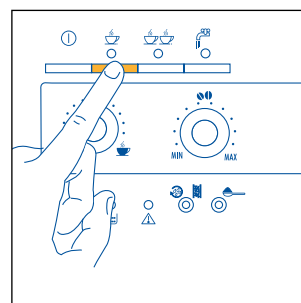
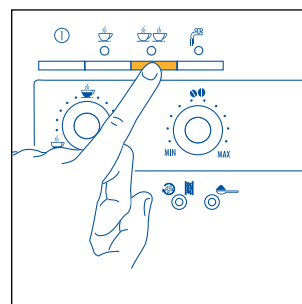

Fig. 12
Fig. 13
- 5) Press the ☕ button (Fig. 12) to make one cup of coffee or the ☕☕ button (Fig. 13) to make 2 coffees. *At this point the machine grinds the beans, runs a short pre-infusion cycle, a pause and then completes the delivery.*
NOTE 4: while the machine is making the coffee, the delivery can be stopped at any time by pressing the ☕ button (Fig. 12) or ☕☕ button (Fig. 13), as previously selected.
NOTE 5: as soon as delivery is complete, to increase the quantity of coffee, simply press and hold the ☕ button (Fig. 12) or ☕☕ button (Fig. 13), as previously selected, until reaching the desired quantity (this operation must be performed within 3 seconds from the end of the delivery of the coffee from the spouts).